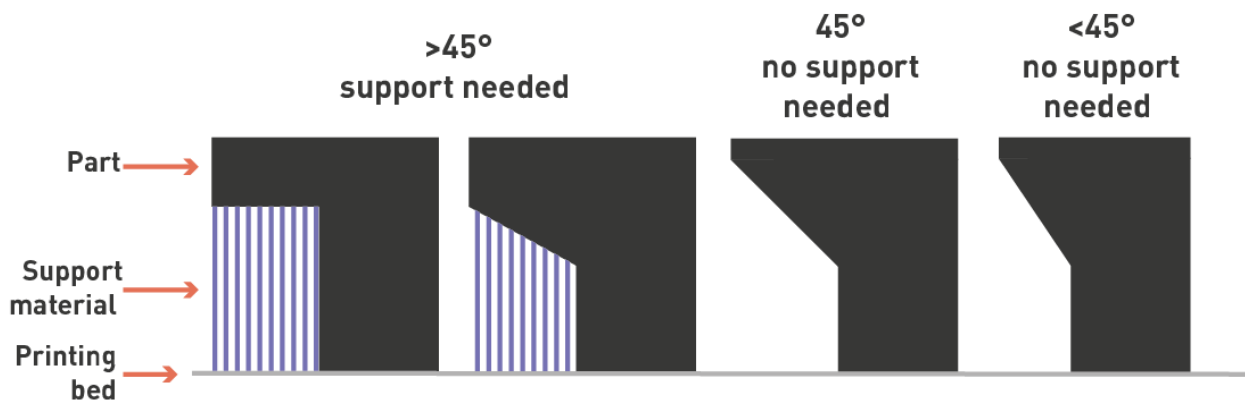

Figure 28 - Support material recommendations.
- F. Support material.** Depending on the geometry of your redesign part, you may have to select to have support material in some sections, as shown in Figure 28. If you have overhangs over 45° you will need support material, you can design your overhangs to use as little support material as possible. You can consider using soluble materials for the support (like PVA). This will only be possible if you have a printer that has two nozzles, and it also has its disadvantages, such as water absorption by the printed part.